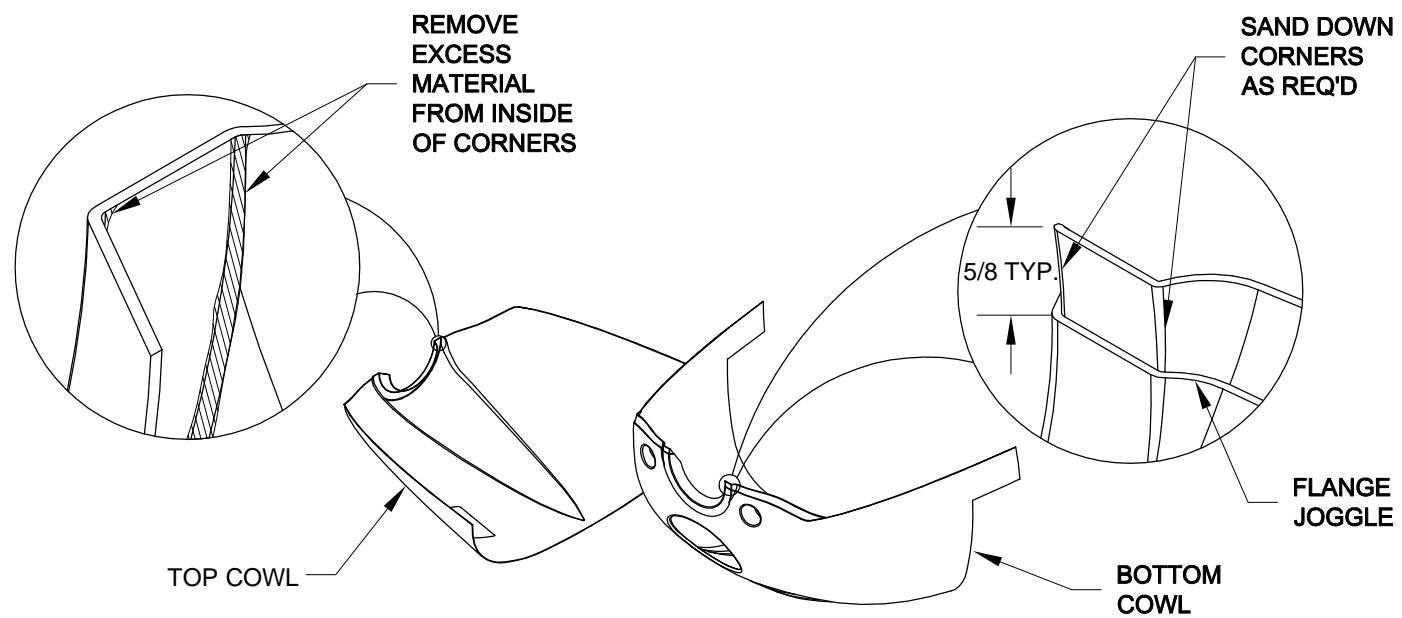

FIGURE 2: REMOVING EXCESS MATERIAL
Step 2: Clean any excess resin that may have cured along the flange joggle on the bottom cowl. Remove abnormal glass and resin buildup from the inside surface of the top cowl. Sand down the corners of the flange on the bottom cowl. This will allow the top cowl and bottom cowl to fit together with little or no mismatch in their outer surfaces. See Figure 2.
Step 3: Trim or sand the flange on the bottom cowl to the dimension shown in Figure 2.